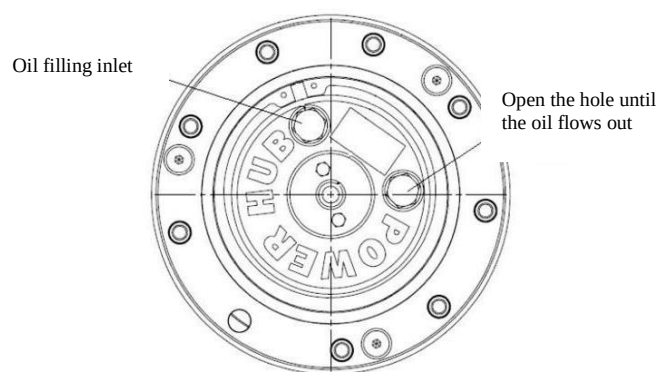

Figure 4-13 Oil Injection and Drainage for Travelling Reducer
- Rotate the reducer until the hole is in horizontal status, as shown Figure 4-13.